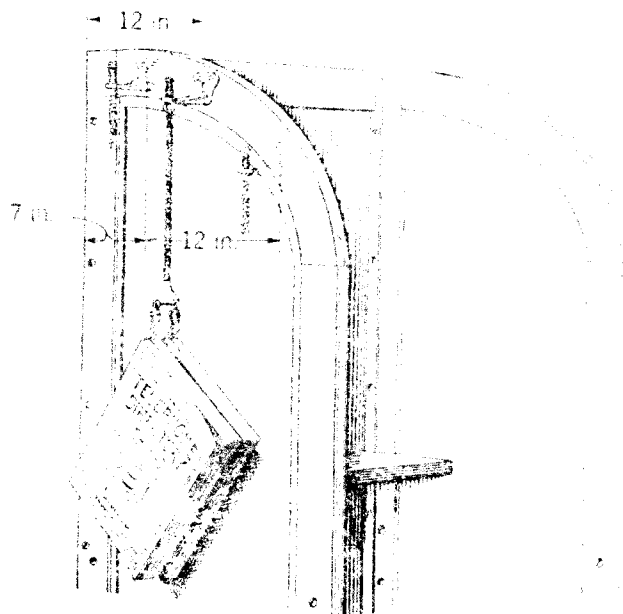

Fig. 3—Hangers on Booths.
1.04 **Directory Hangers:** Fig. 3 illustrates installation of hangers on booths. The same dimensions apply for wall installations. Directory hangers should not be installed inside booths and when installed on walls should be as near the booths as practicable. Where wall surface is other than wood install a 157A backboard with fastening devices for batten listed in 1.01. Attach hangers to backboard or wood with 1 inch No. 8 R.H. Blued Wood Screws.